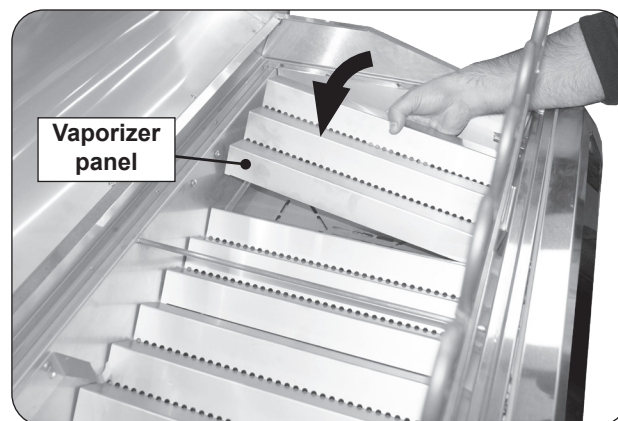

Fig. 33-2 Install vaporizer panels
3. With the support bracket removed, carefully place the vaporizer panels down into the electric grill as shown in Fig. 33-2.